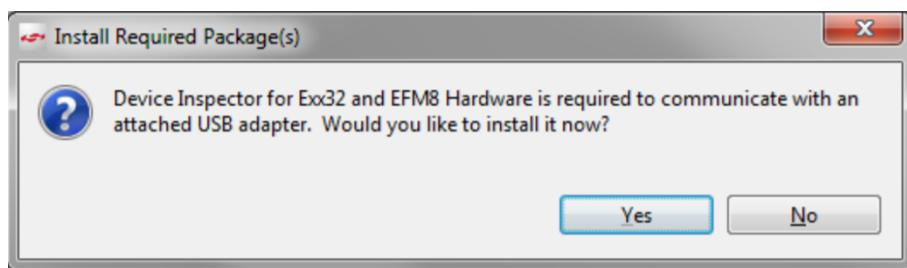

Figure 2: Install Required Device Inspector
- 5) After logging in, Simplicity Studio adds software information. Once the initial software installation is complete, Simplicity Studio checks for connected hardware. If you have the WSTK connected by USB cable, Simplicity Studio will detect the USB cable and prompt you to download a Device Inspector. Click *Yes*. See Figure 2.